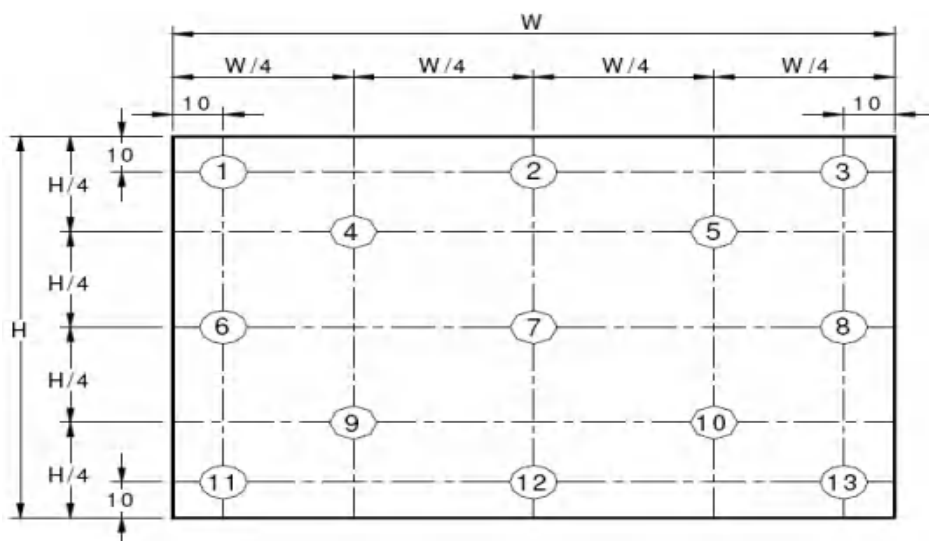

Figure 9. Uniformity Measurement Locations (13 points)
4. The White luminance uniformity on LCD surface is then expressed as : $\Delta Y = \text{Minimum Luminance of 5(or 13) points} / \text{Maximum Luminance of 5(or 13) points.}$ (see Figure 8 and Figure 9).
The White luminance uniformity on LCD surface is then expressed as : $\Delta Y5$ = Minimum Luminance of five points / Maximum Luminance of five points (see Figure 8) , $\Delta Y13$ = Minimum Luminance of 13 points / Maximum Luminance of 13 points (see Figure 9).